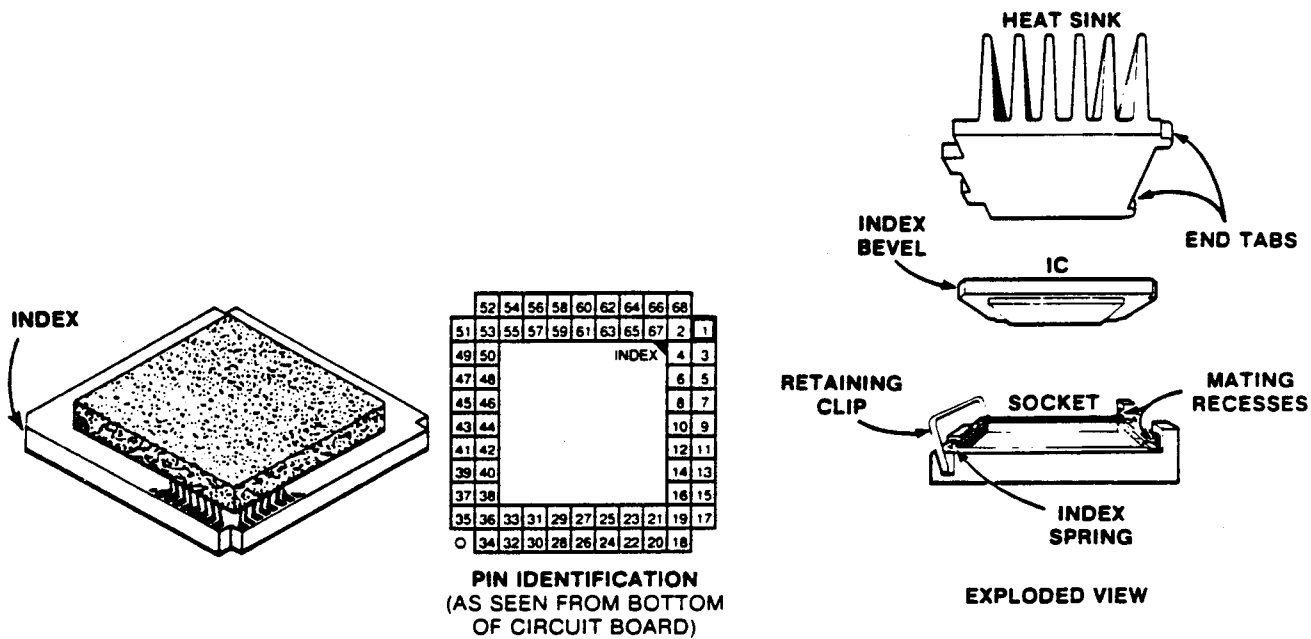

Figure 2. - "Slam-Pak" microcircuit indexing.
- () 4. Replace U350, U552 "Slam-Pak" microcircuits as follows: Refer to Figure 2, "Slam-Pak" detail.